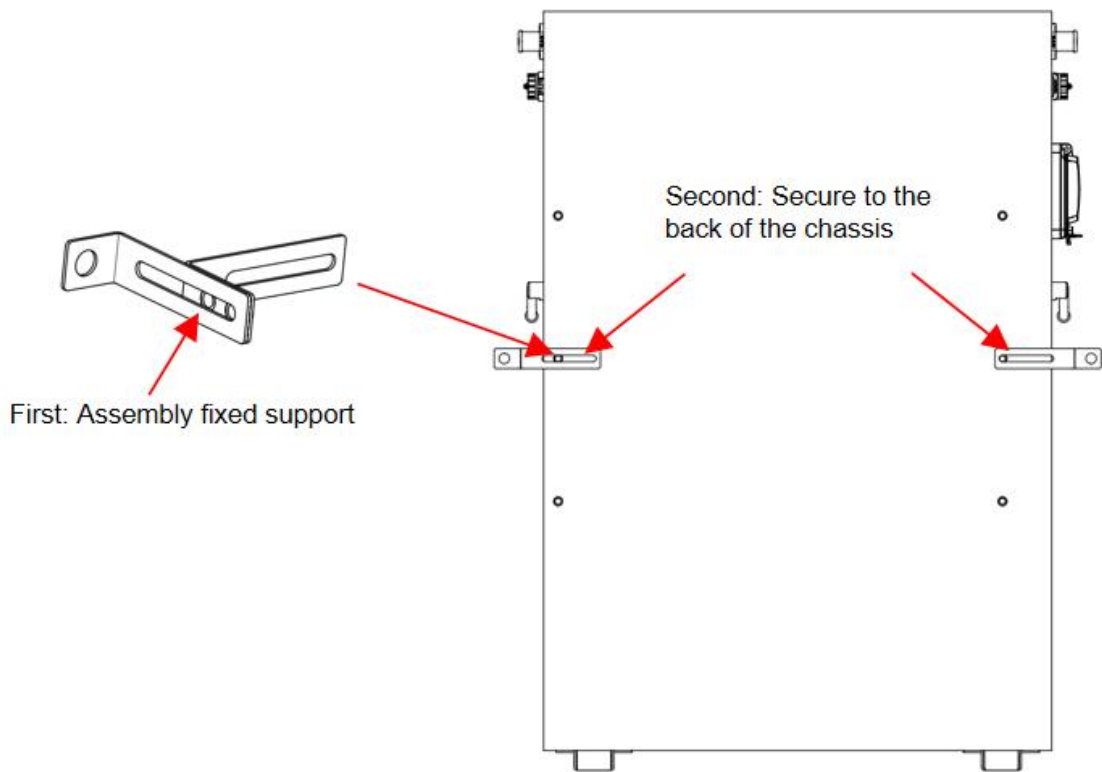

Figure 5-4
a) Use the 4 screws of M6*12 to fix the left and right retaining ears to the back of the battery, The distance between the two supports ranges from 563 to 589mm, and can be moved about 26mm, as shown in Figure 5-4.